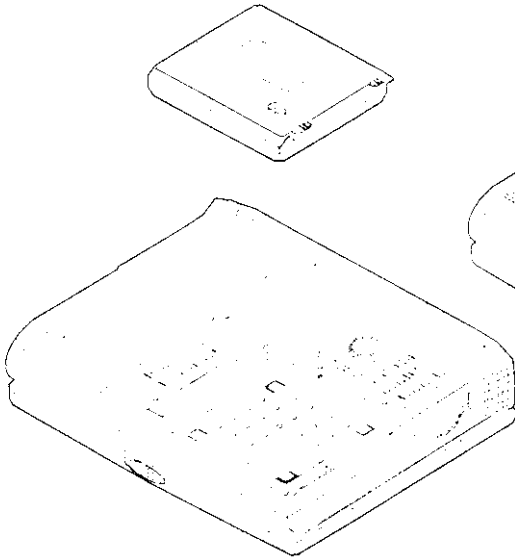

Figure 1-4
2. Position the battery pack and firmly fit it into the Notebook (Figure 1-4).